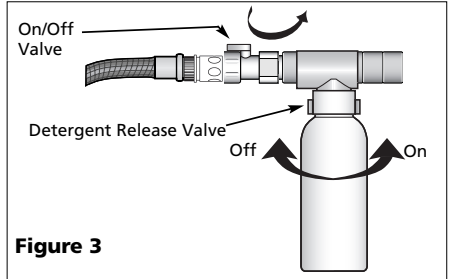

Figure 3
During operation, you can start or stop the release of the detergent or wax by turning the Detergent Release Valve On or Off (Figure 3).
1. To make the attachments rotate, turn On/Off Valve (Figure 3).